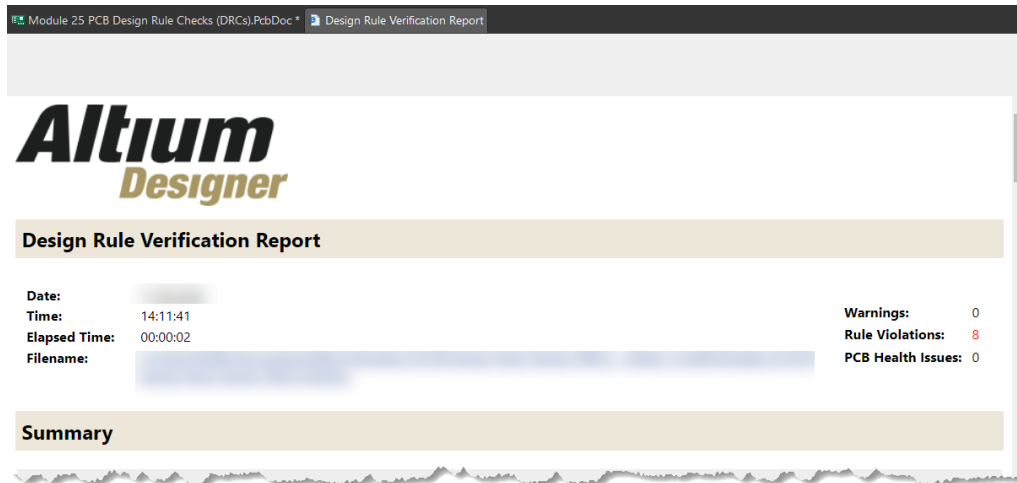

Figure 16. Design Rule report
38. The *Design Rule Verification Report* should now show eight (8) rule violations as shown in Figure 16.